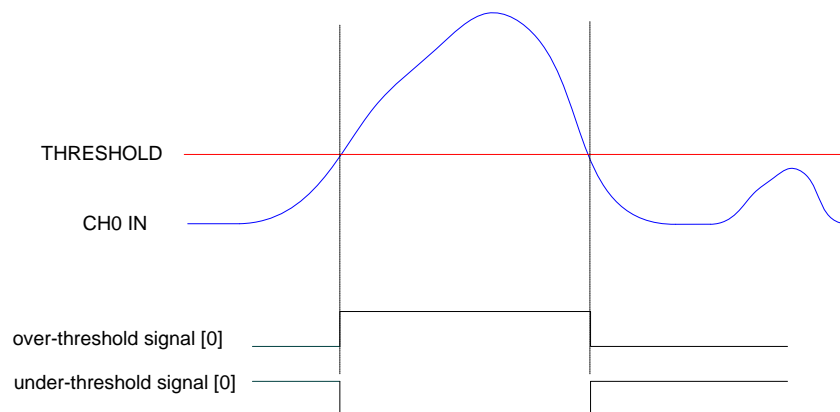

Fig. 10.12: Channel over/under threshold signal
- an *over/under-threshold signal* (see Fig. 10.12). This signal can be programmed to be active (i.e. "1") as long as the input pulse stays over the threshold or under the threshold (depending on the trigger polarity bit at register address 0x8000).